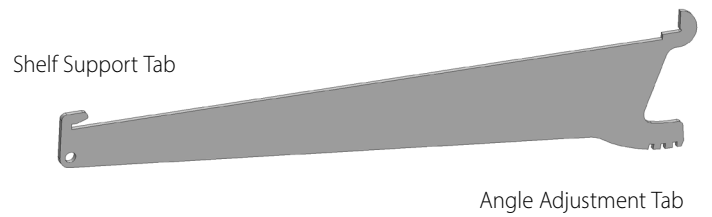

Fig. 5. Shelf support bracket tab identification.
1. Locate the shelf support brackets. See fig. 5.